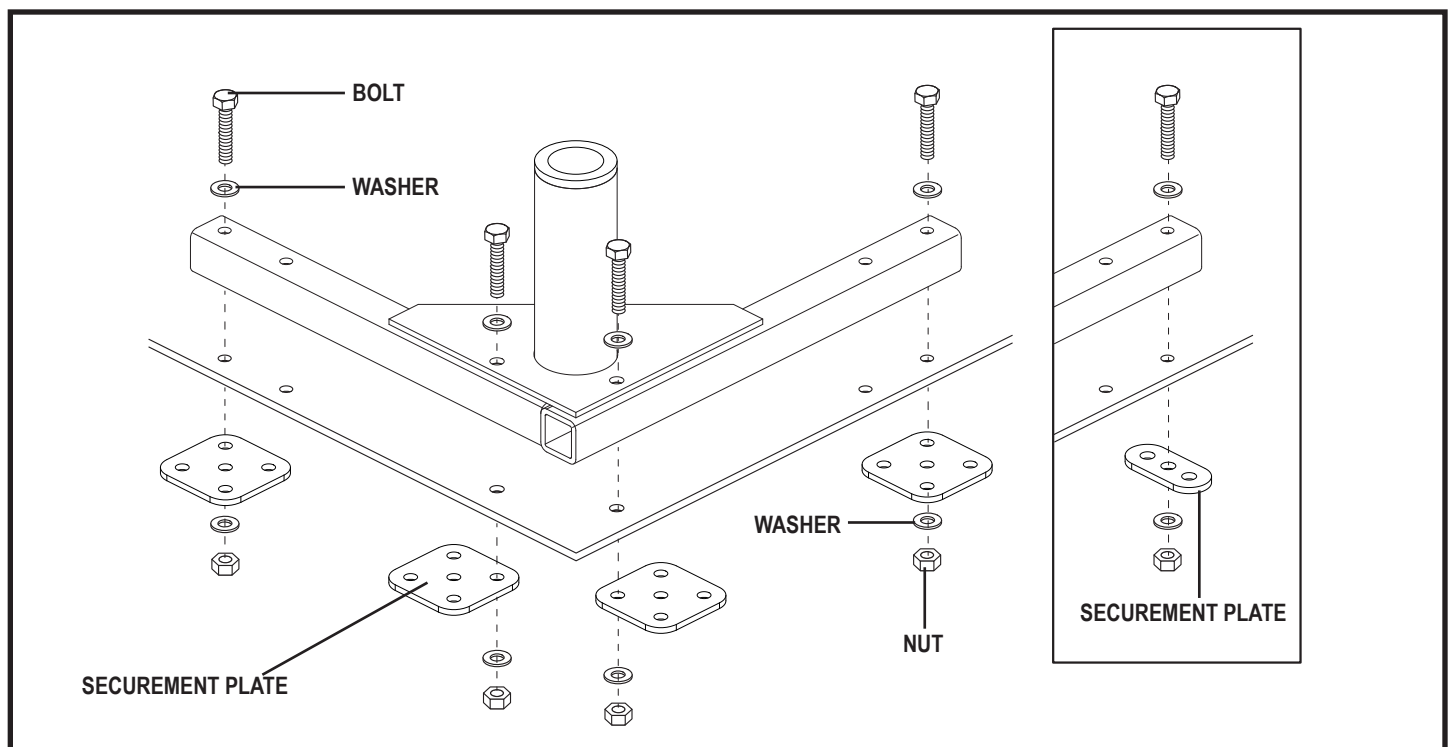

Figure 8. Securing the L-Base
2. If all is clear under the L-base, mark the position of the mounting holes and drill them using a 3/8-in. drill bit. Drill all mounting holes from inside the vehicle. **See figure 8.**
5. From under the vehicle, install the securement plates, mounting washers, and nuts to all mounting bolts and tighten. **See figure 8.**